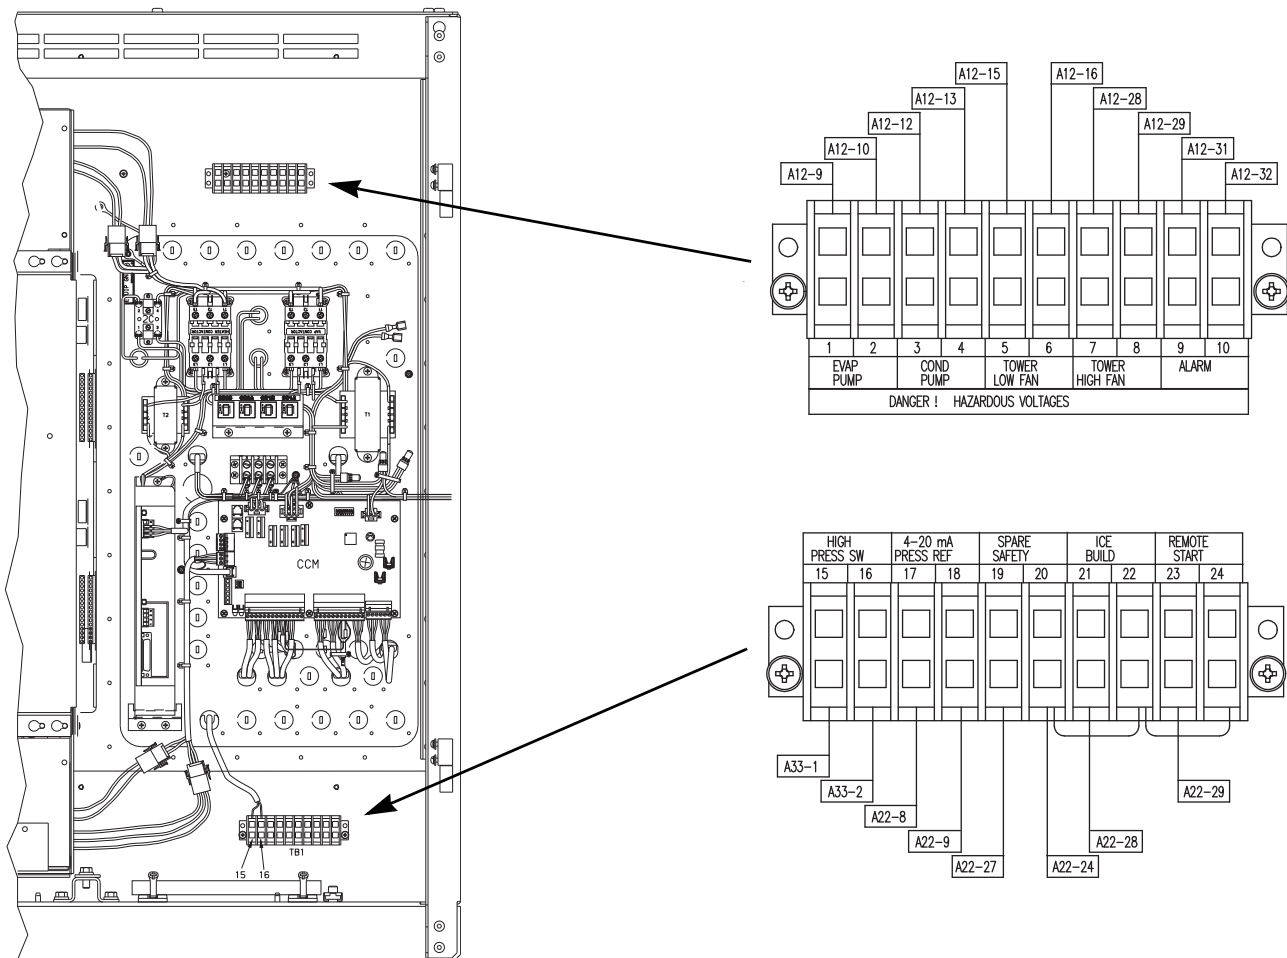

Fig. 47 — Control Terminal Blocks
5. Connect the control wiring as shown in Fig. 47. Tighten all connections to 7 to 9 in.-lb.